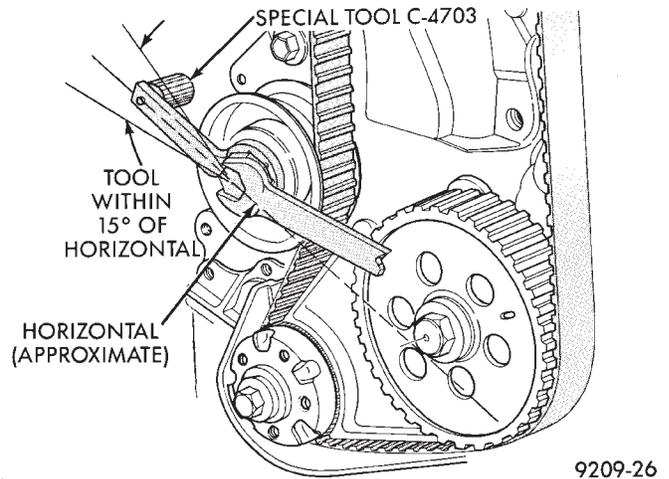

Fig. 13 Adjusting Drive Belt Tension
(5) Rotate crankshaft till number 1 cylinder is at the TDC position.
(6) Put belt tension Special Tool C-4703 horizontally on large hex of timing belt tensioner pulley and loosen tensioner lock nut.
(7) Reset belt tension Special Tool C-4703 index if necessary to have axis within 15° of horizontal. (Fig. 13)
(8) Turn engine clockwise from TDC two crank revolutions to TDC. **Do not reverse rotate crankshaft or attempt to rotate engine using cam or accessory shaft attaching screw.**
(9) Hold weighted wrench in position while tightening bolt on tensioner to 61 N·m (45 ft. lbs.) torque.